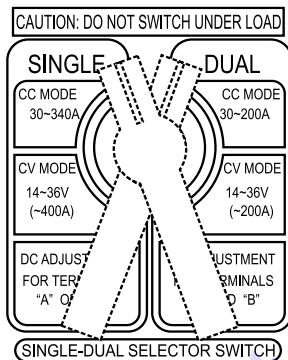

Figure 38. Single-Dual Selector Switch
2. Place the welding mode selector switch (Figure 38) in either the **single** or **dual** mode position.